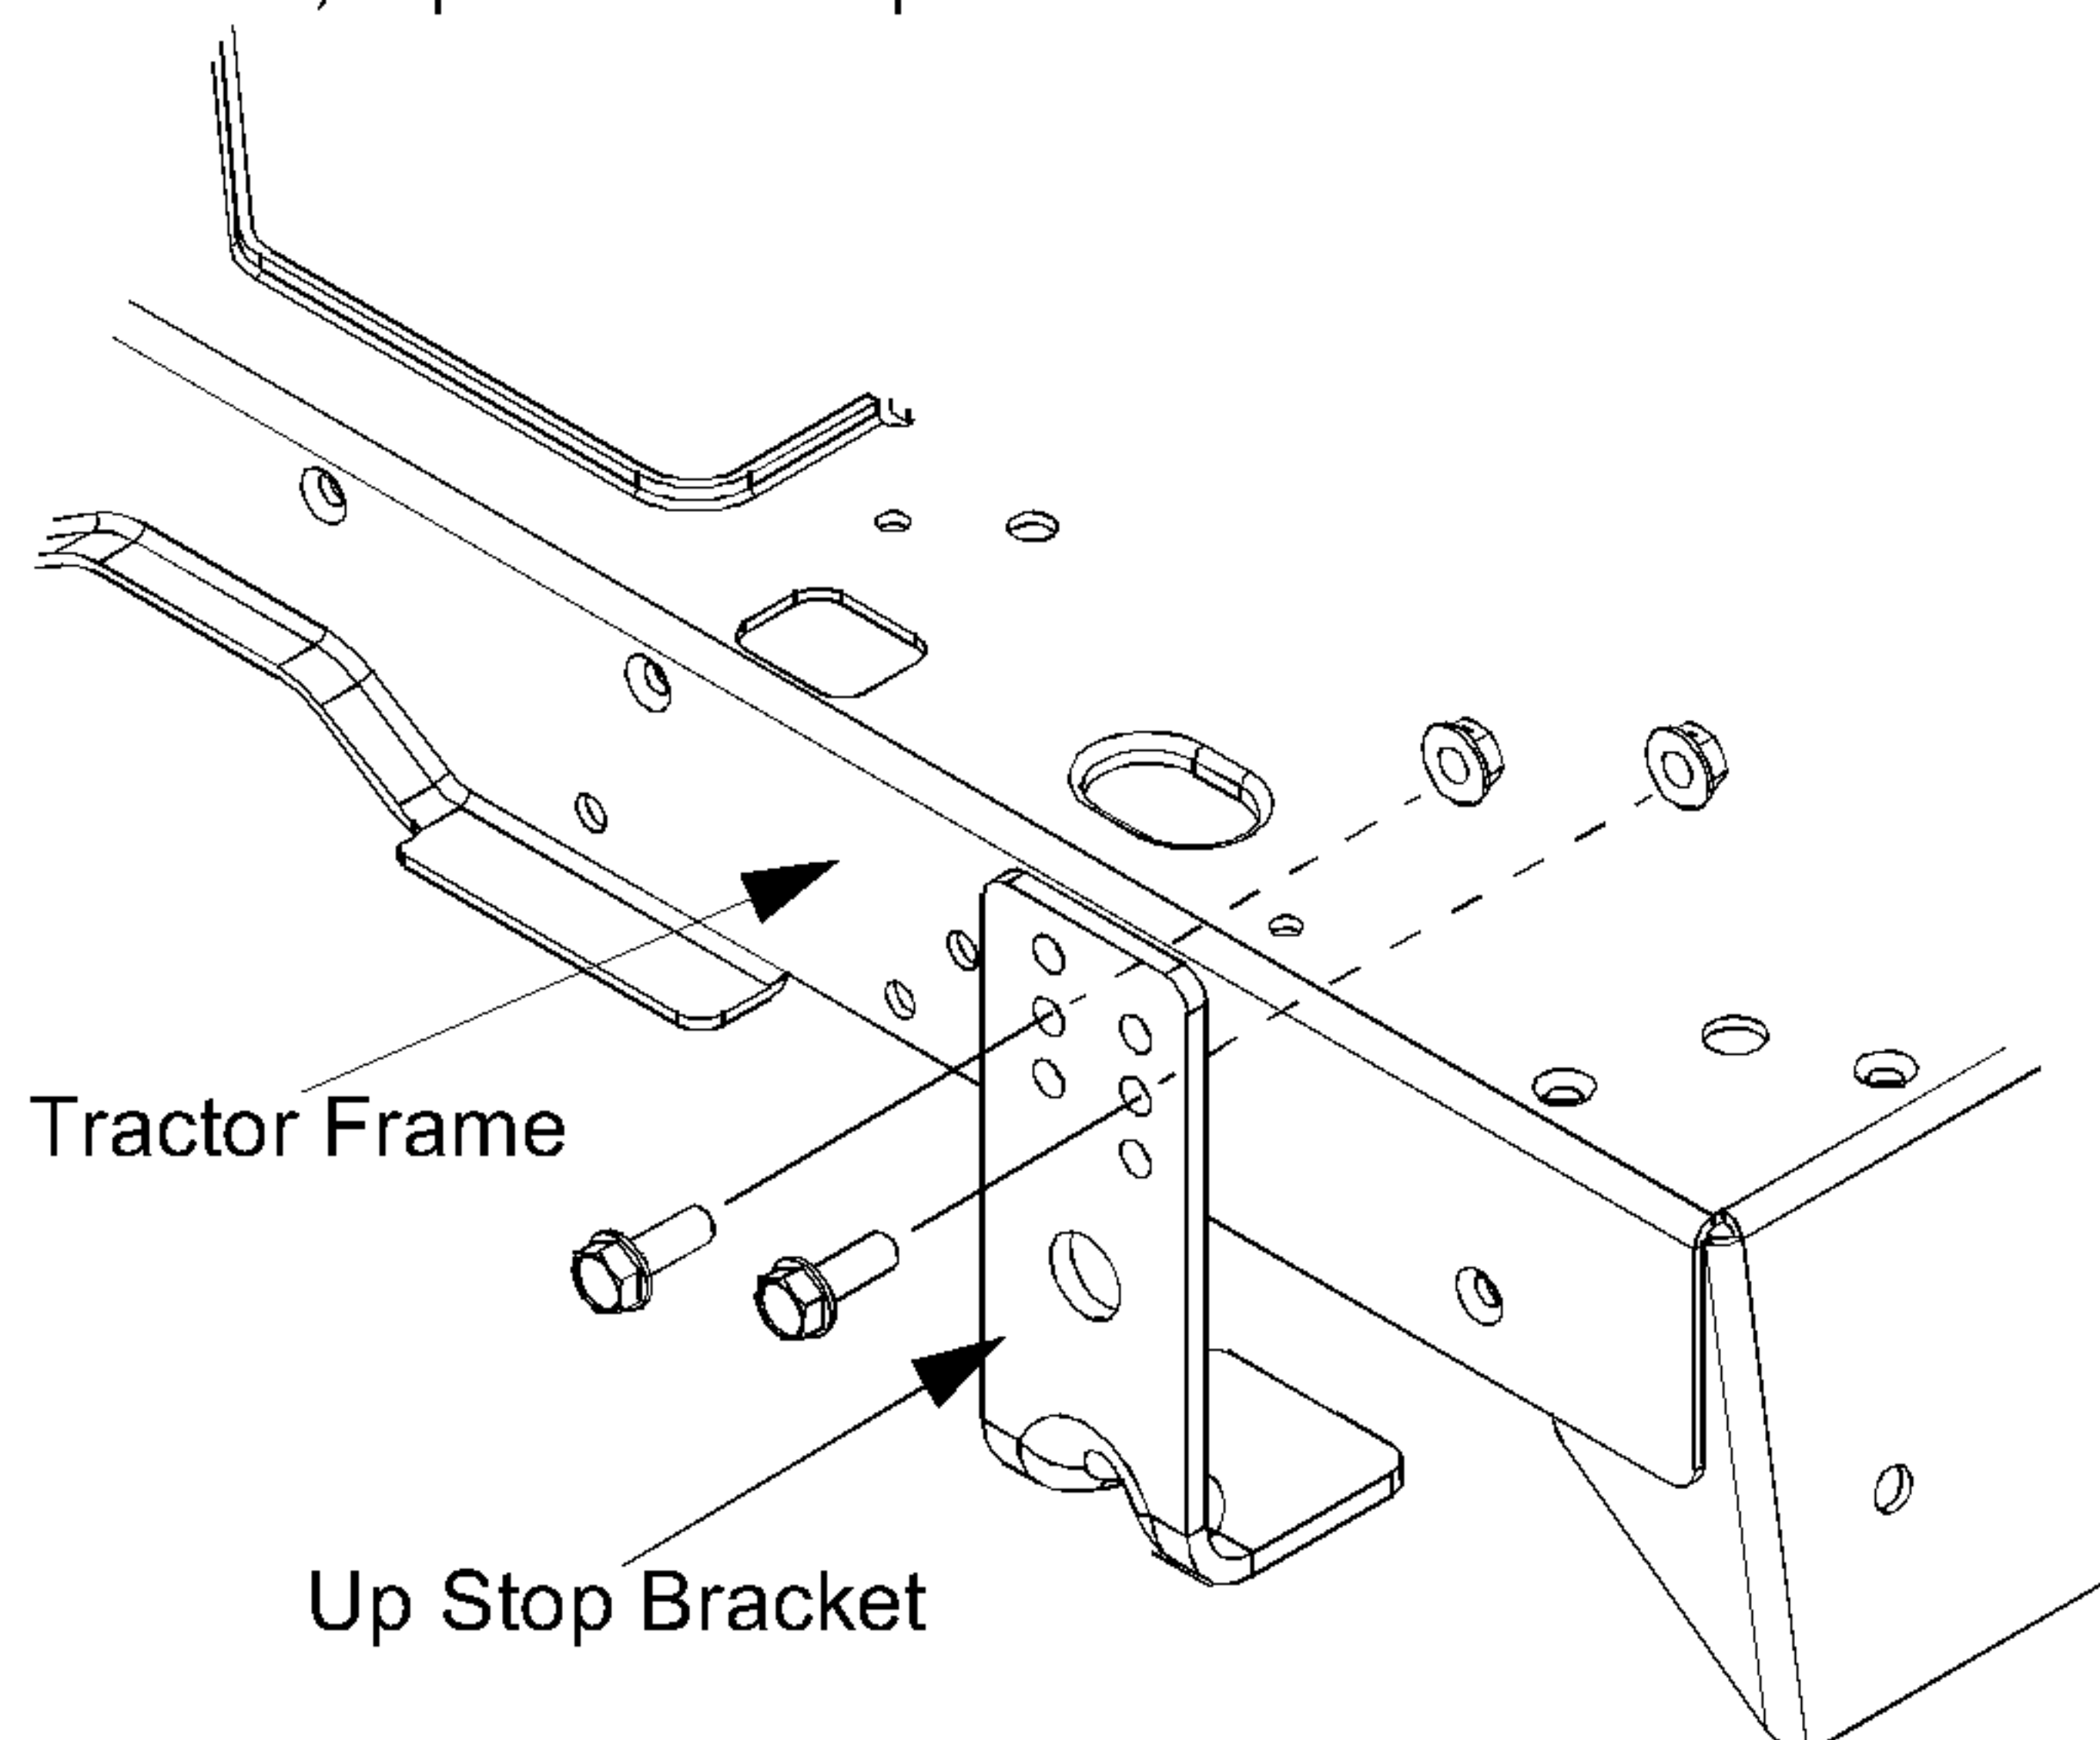

Figure 1
1. Locate the **up stop bracket** on the right side of the **tractor frame** in front of the deck. See Figure 1.
2. Make sure it is mounted using the center set of holes as shown. See Figure 1.